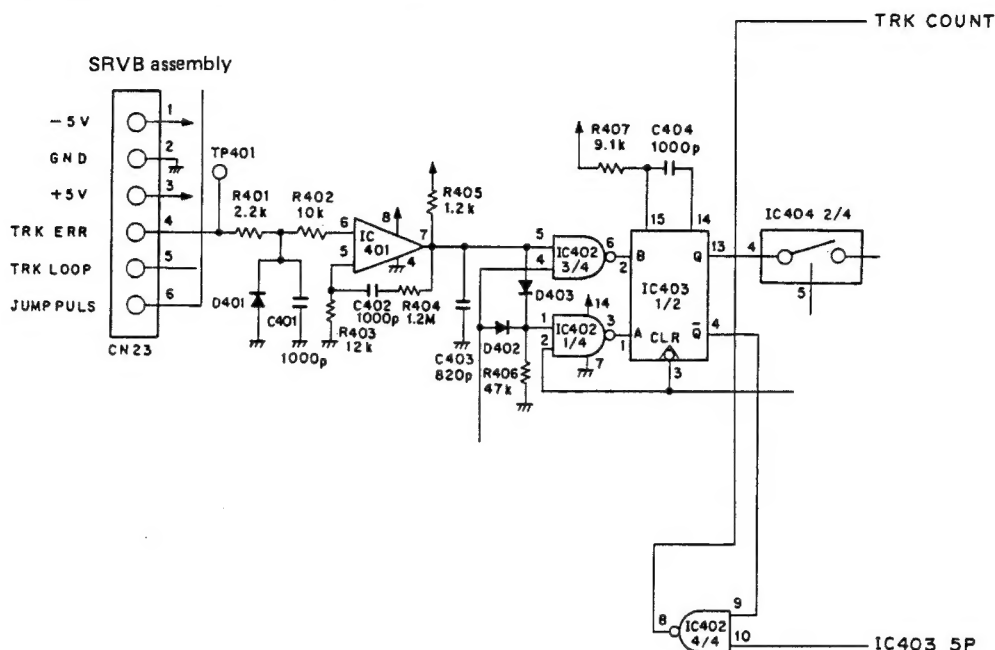

Fig. 5-2 Track count pulse generator circuit
2) Track Count Pulse Generator Circuit (Fig. 5-2)